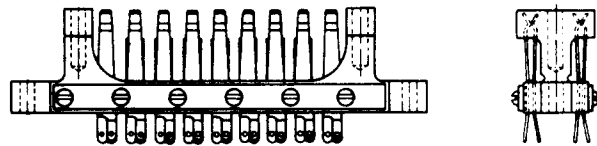

Fig. 7—312 Jack
2.07 **312:** This multicontact jack (Fig. 7) is used with the 231 plug and designed for switching or patching in emergency switching and patching plug and jack equipment in dial offices. The contacts are insulated from each other and are arranged in pairs. The 312 jack is provided with guide holes arranged to engage with guide posts of associated plugs for centering contacts of plugs and jacks. This jack has 18 pairs of contact springs.